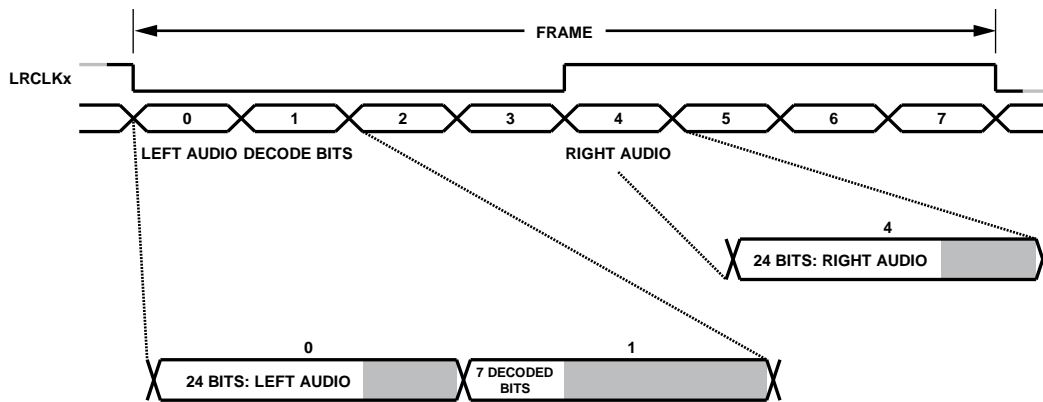

Figure 54. S/PDIF TDM Signal
When TDM mode is active, Slot 0 and Slot 4 contain the audio data, and Slot 1 contains the streamed block start, channel status, user data, and validity bits (see Table 65). The bits are streamed in real time and are synchronized to the audio data. Only the seven MSBs of Slot 1 are used, as shown in Table 65. The corresponding TDM format is shown in more detail in Figure 54.
**Table 65. Function of Decoded Bits in Figure 54**